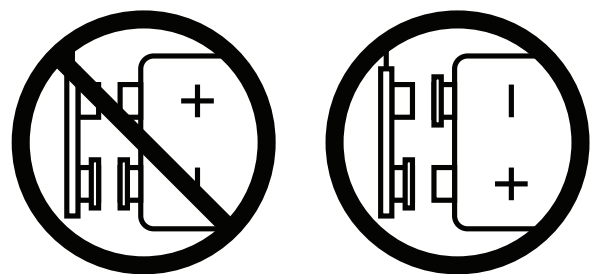

Figure 1: Smartap Battery Connections
24. Disconnect battery. The battery connection is a snap type connector (Figure 1).
27. **CAUTION:** Verify battery connector alignment before making connection (Figure 1).